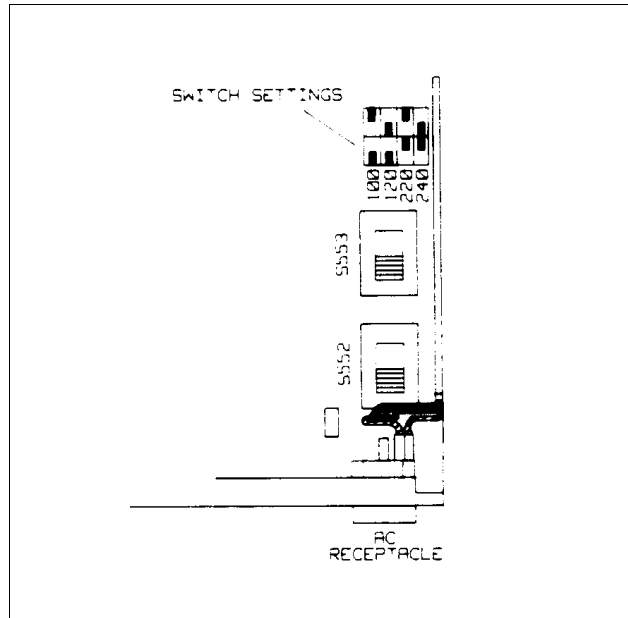

Figure 3-3. Voltage Select Switches
2. Locate the voltage select switches **S552** and **S553** in the unit (see Figure 3-3).